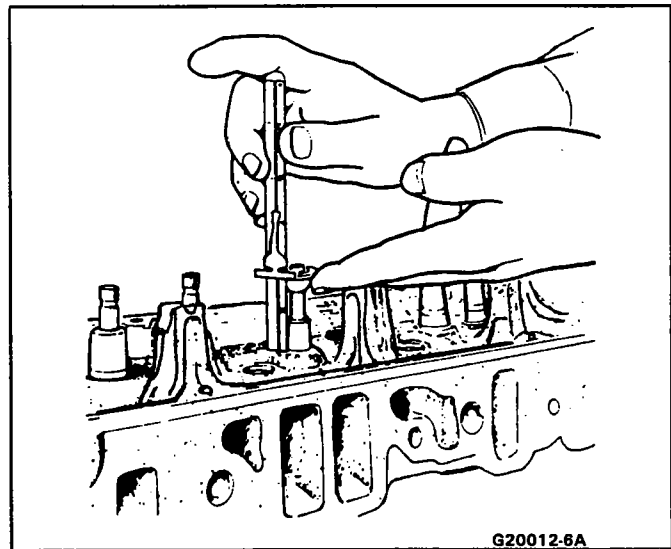

Figure 14 Measuring Valve Spring Installed Height
- Valve spring installed height (Figure 14). Excessive valve spring installed height is caused by the lowering of the valve seat by wear and grinding and valve face grinding during re-conditioning. To correct the valve spring installed height, add shims under the valve spring.